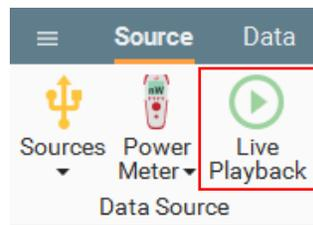

Figure 4: Live Playback Button
- Displays initially appear blank. Select **Live Playback** (Figure 4) in the **Data Source** panel to start and stop data collection.